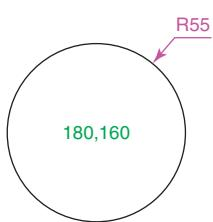

Fig. 2.13 First example
First example – circle tool (Fig. 2.13)
3. *Enter* a coordinate and a radius against the prompts appearing in the command window as shown in Fig. 2.12, followed by *right-clicks*. The circle (Fig. 2.13) appears on screen.